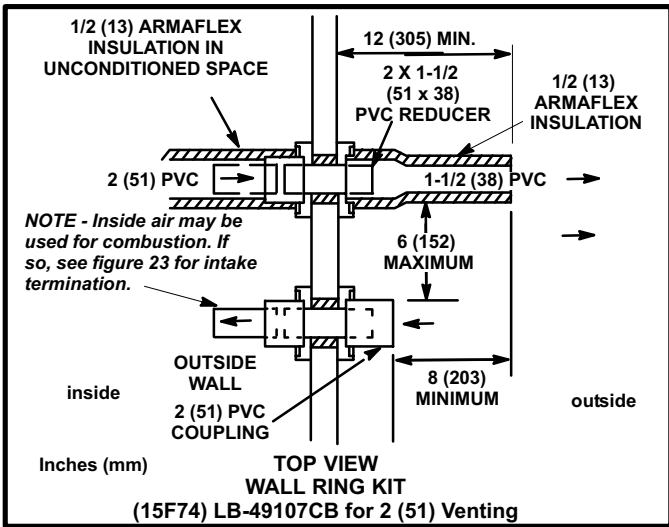

FIGURE 25
- 6 - On field supplied terminations for side wall exits, exhaust piping should extend a minimum of 12" (305mm) beyond the outside wall. Intake piping should be as short as possible. See figure 25.